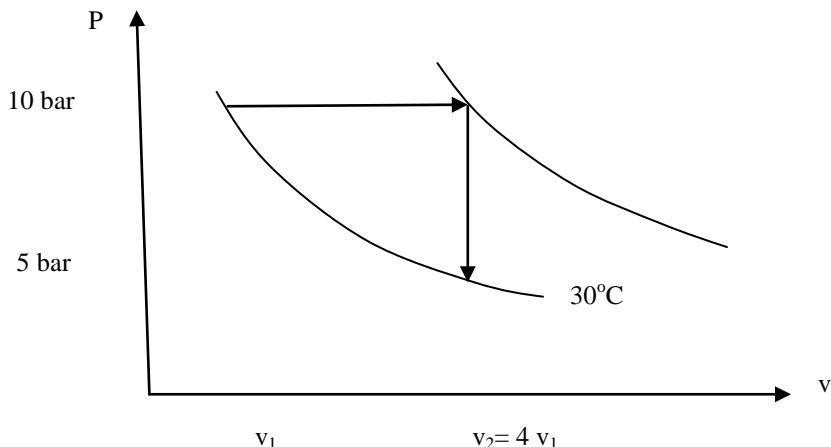

Figure Q2
- [b]** With reference to Figure Q2, calculate for non flow processes: